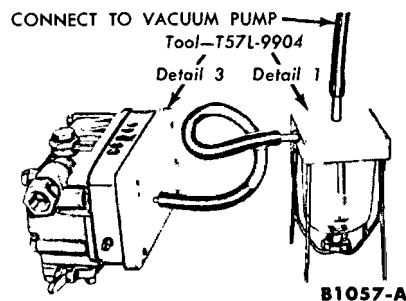

FIG. 4—Typical Holley Carburetor Power Valve Test
2. Install the fuel bowl, metering block, and gaskets on the adapter plate (Fig. 4). **Be sure the fuel bowl screws are properly tightened.**